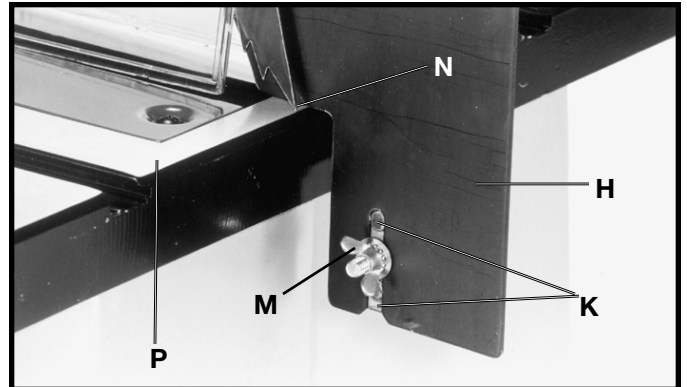

Fig. 15
8. Fasten splitter (H) Fig. 15, to splitter support bracket using 1/4" flat washer, 1/4" external tooth lockwasher and M6 wing nut (M). **NOTE:** Before tightening wing nut (M) make certain there is at least a 1/8" gap between the bottom edge of splitter (N) and top surface of table (P) and that protrusion "pins" (K) Fig. 15, are inside the slot of splitter assembly (H).